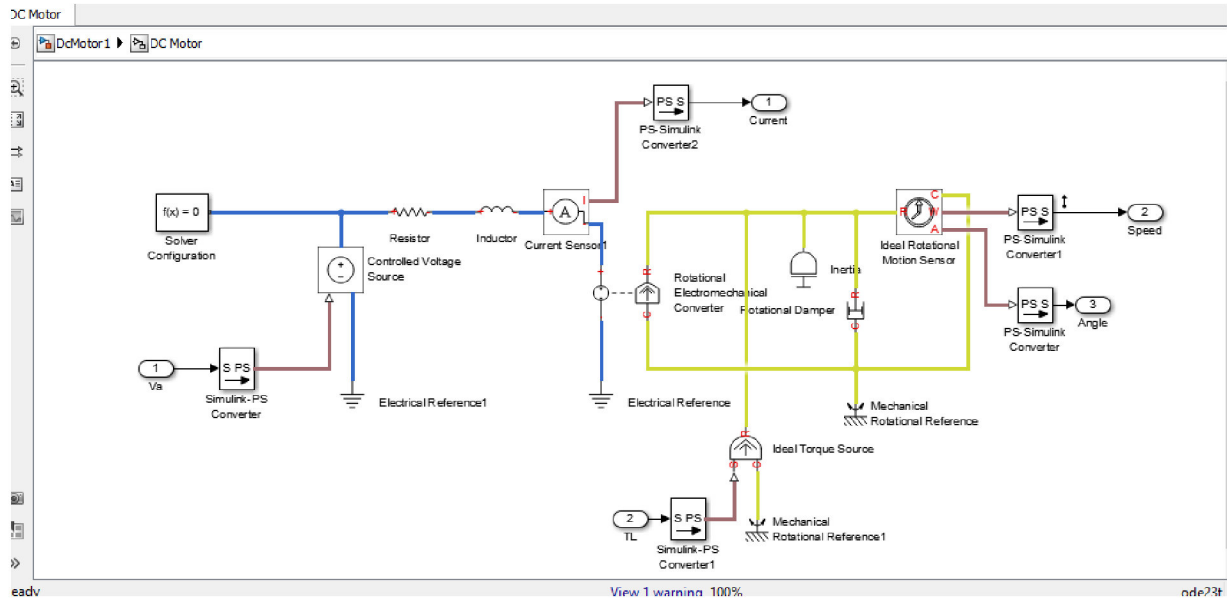

Figure 10
- 3) Double click on the DC Motor subsystem and change the name of input and output node as figure 10 and figure 11